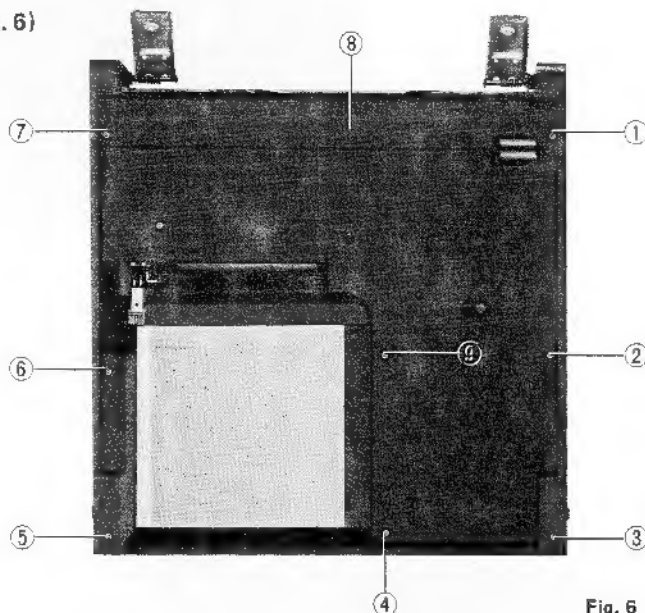

Fig. 6
### 5-(2) Removal of mechanism cover (Fig. 6)
2. Remove the securing black screws ① - ⑨ of the mechanism cover.